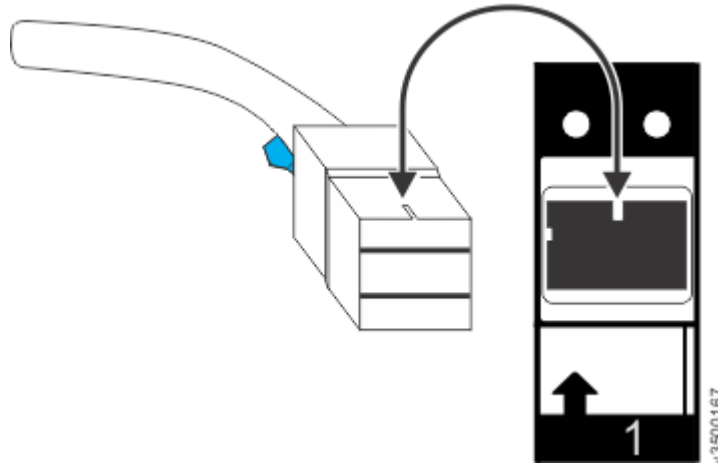

Figure 131. Proper orientation for SAS cable connector
- Figure 131 on page 170 shows the correct orientation. The blue tab is always below the port for expansion enclosure attachment SAS cables.